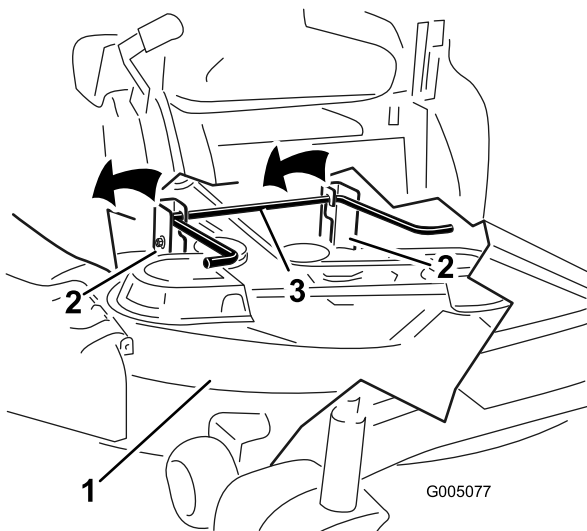

Figure 57
- Lift the mower deck and hanger brackets clear of the rear lift rod and lower the mower carefully to the ground (Figure 57).
- Lift the rear of the mower deck and guide the hanger brackets over the rear lift rod (Figure 57).